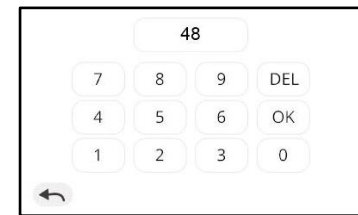

Figure 3. Keypad
- *Keypad (3)*: by clicking on the number, a keypad will appear (**Figure 3**). A percentage 0%-100% can be introduced by using it. You can erase a digit by pressing 'DEL'. Press 'OK' to confirm the percentage. If the value introduced is higher than 100%, it will be replaced by the previous valid percentage.